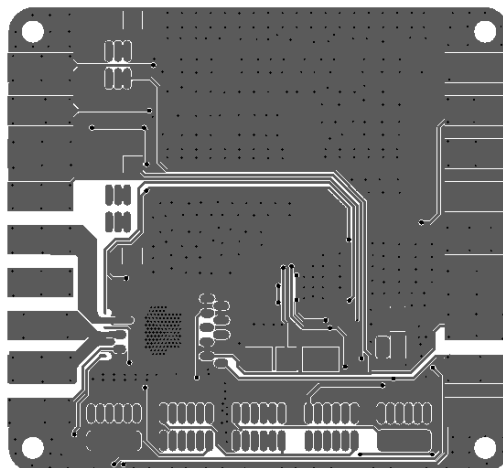

Figure 6. Mirrored Bottom Layers
- Figure 6 shows the mirrored bottom layers which is a directly-seen image from the bottom side.